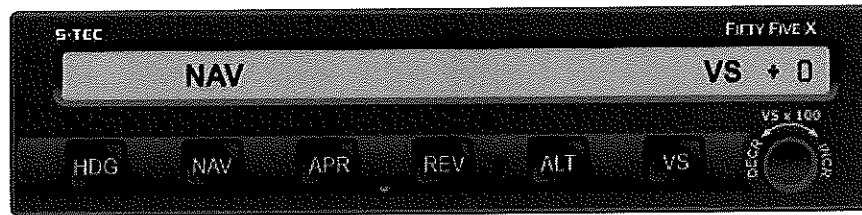

Fig. 2-11. AP Display, NAV and VS Modes Engaged, 0 FPM (Pre-Flight)
22. Press NAV mode selector switch to engage navigation mode.	NAV, VS, and +0 annunciations only appear on AP display, as shown in Fig. 2-11.
26. Press NAV mode selector switch to engage navigation mode.	NAV, VS, and +0 annunciations only appear on AP display, as shown in Fig. 2-11.